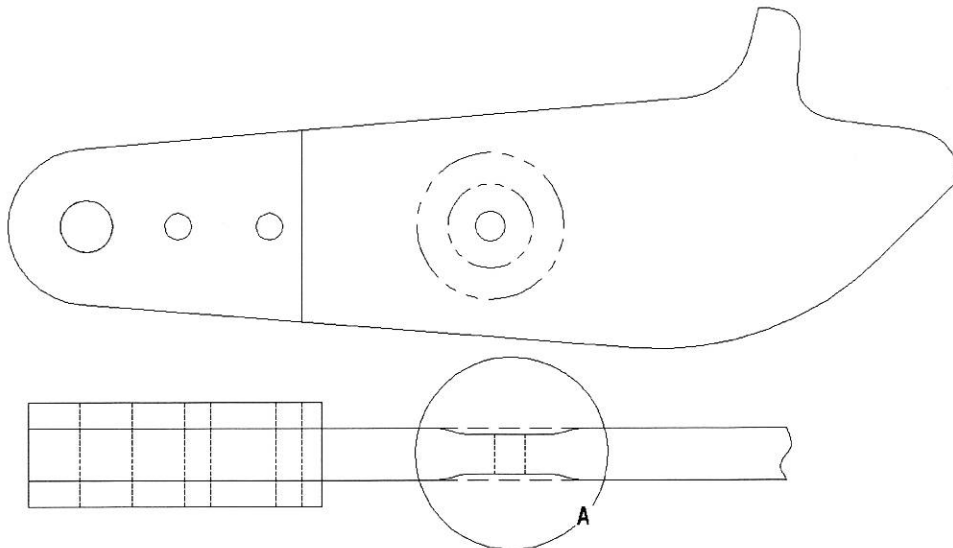
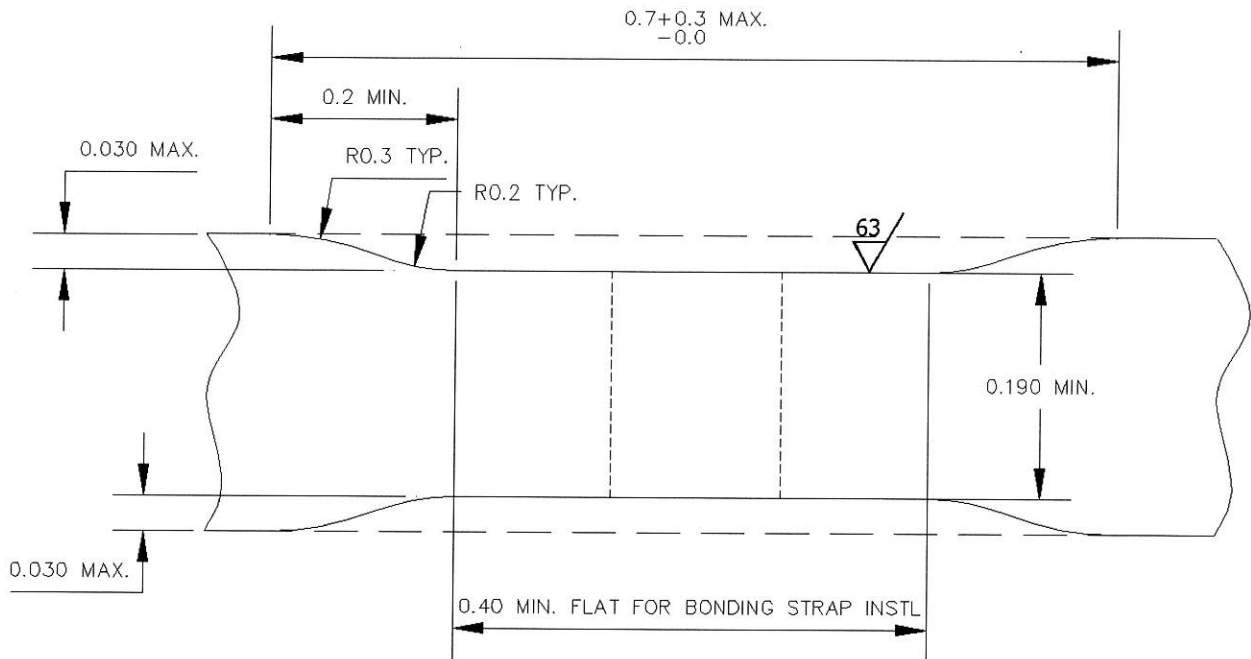

Figure 2 – Arm Rework at Bonding Strap Fastener Hole only
Figure 3 – Detail A: Rework at Bonding Strap Fastener Hole
- 6.1. Perform rework to the Arm by blending. Remove a minimum amount of material and remove the corrosion found whilst not exceeding a maximum depth of 0.030" in the region around the Bonding Strap attachment hole. Ensure a blend ratio of at least 7:1 is achieved as described in Figure 2 and Figure 3, and that the resulting surface finish of the blended area is at least 63 µin. Ra;
- 9.2. Measure the OD of the bush to the nearest 0.01mm (0.0004"). If the OD is less than 9.53mm (0.3751"), or more than 9.55mm (0.3761") the bush is considered unserviceable and a new bush must be manufactured in accordance with Figure 2 of SB-GA8-2012-67. Otherwise, proceed.